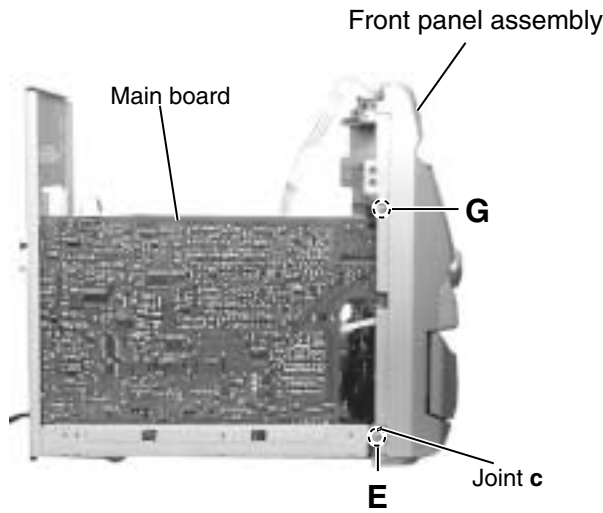

Fig.12
3. Remove the screw **G** attaching the main board holder. (See Fig.12)